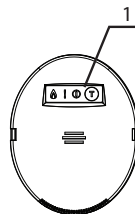

Fig.1
The 71CNG detector (fig.1) is applicable for detection of natural gas (methane) in the protected area. The status of the detector is indicated with LEDs and sounder.
The 71CNG detector's functions are indicated through the following LEDs (fig1 pos.1):